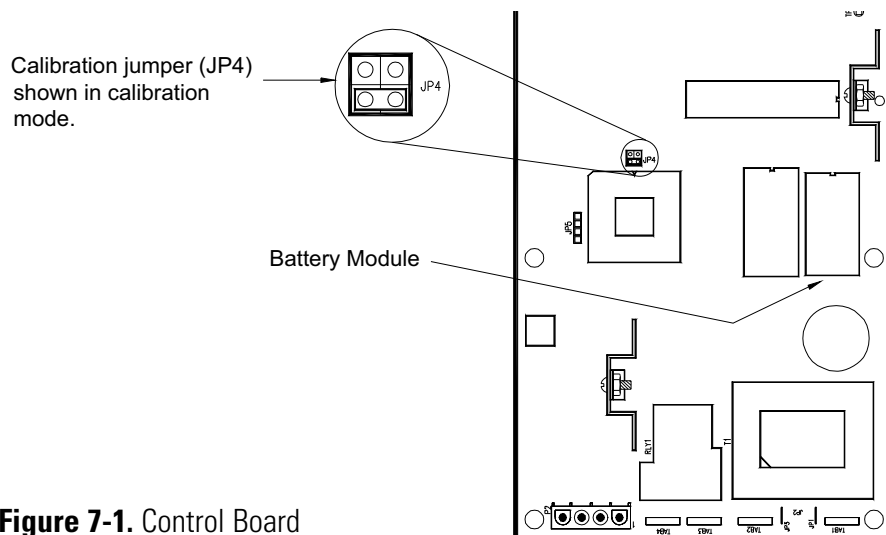

Figure 7-1. Control Board
3. Locate two sets of jumpers on the back of the control board labeled JP4. To enter the calibration mode, remove the bottom jumper and place it across the bottom pins as shown in Figure 7-1.